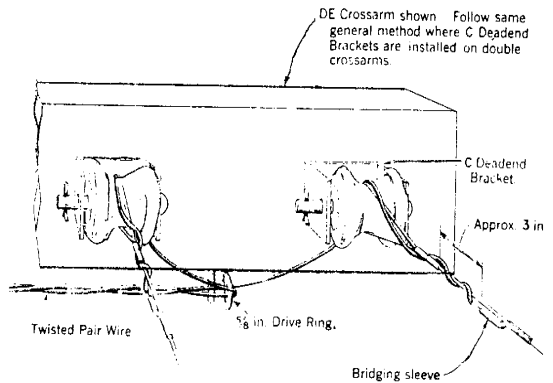

**Fig. 10 — Where Line Wires Are Tied to Pin-Type Insulators**
**5.01** In general, connect twisted pair wire to open wire attached to glass insulators or deadend brackets as illustrated in Fig. 10, 11, and 12. As an alternate, bridging connectors may be used in lieu of bridging sleeves. However, in localities where corrosion of the bridge wire occurs adjacent to the bridging connector, connect to open wire as covered in 5.02 or 5.03 depending on the severity of corrosion.